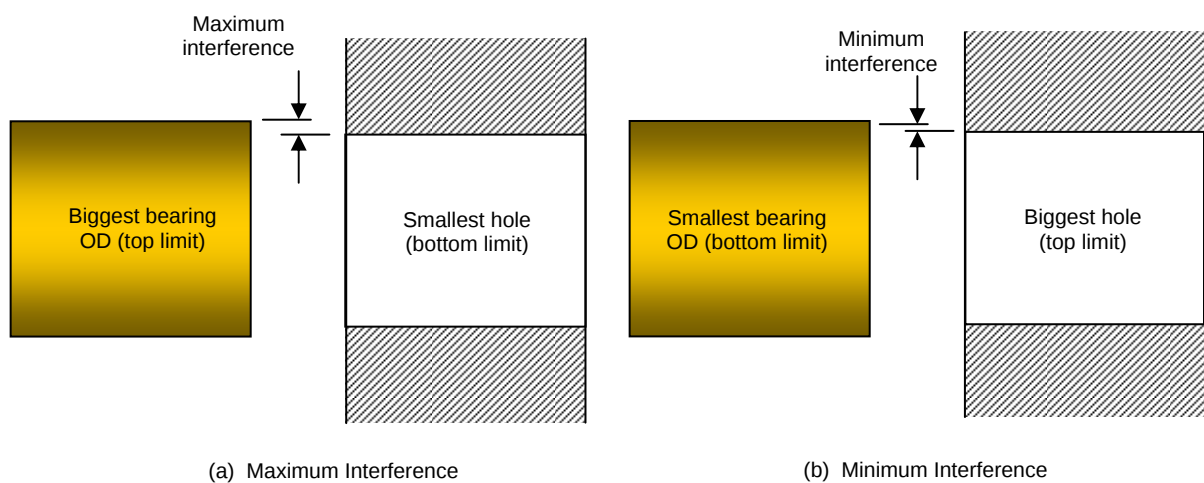

Figure 4.17: Bearing/Housing Interference Fit
In nearly all cases, the bearing must not turn in its housing. An interference fit holds the bearing securely in its housing. The interference may be only a few hundredths of a millimetre. The size limits of the housing and bearing must always give an interference fit, even when the outside diameter (OD) of the bearing is on bottom limit and the housing hole on top limit as shown in **Figure 4.17**.